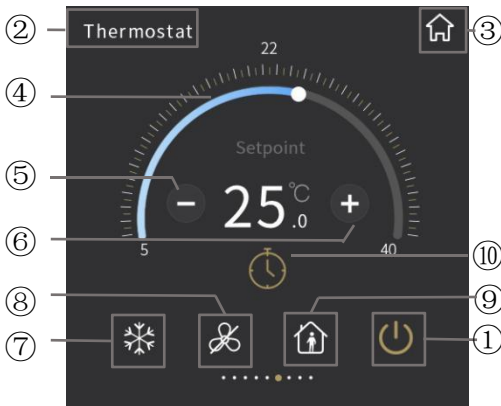
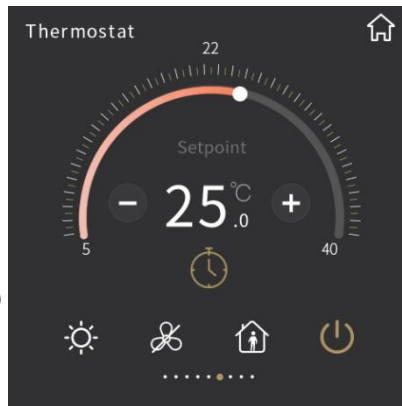

Fig.2.3.1
Fig.2.3.2
The colour of ring slider is to display according to current control mode, display red when heating mode as shown as Fig.2.3.2, display blue when cooling mode as shown as Fig.2.3.1.
Fan speed adjustment of RTC set to be disable or enable through parameter configuration. When disable, there would be no fan speed function shown as Fig.2.3.1 on the interface; when enable, fan speed can be adjusted.
Operation mode of RTC set to be disable or enable through parameter configuration. When disable, there would be no mode option as shown as Fig.2.3.1 on the interface; when enable, operation mode can be selected.
⑩ Turn on timer function by touching this icon;
Icon⑩ on indicates timer turn on; icon⑩ off indicates timer turn off. Timer function can be enabled via the parameter configuration. When timer function is disabled, there would be no timer icon as shown as Fig.2.3.1 on the interface; when enabled, timer can be configured.